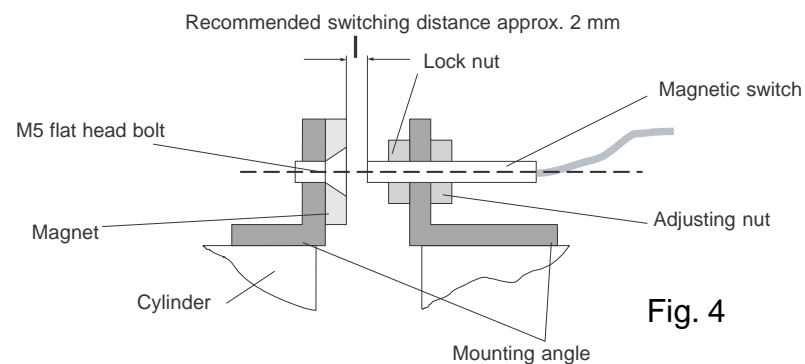

Fig. 4
1. On the LMC-V and LMC-I models, set the preselect switches (9) and (10) to position 0, as shown in Fig. 4 on page 8.
2. Press the ON / RESET switch (2) to switch on the electronic yarn consumption meter.
5. The display (3) now shows the measured length of yarn.
To use this feature, the supplied magnet (12) must be mounted to the cylinder of the knitting machine by using an M5 flat head bolt. The supplied magnetic switch (11) is fitted to the stationary part of the knitting machine so that it is at the same height as the magnet (12) (see Fig. 4 below). The switching distance between the magnet and magnetic switch should be set to about 2mm with the adjusting nut and lock nut of the magnetic switch.